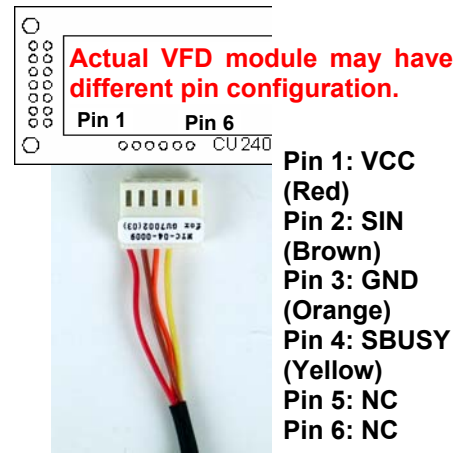

Fig. 2-4
2. Connect the 6-pin connector to the header (optional) of the VFD module (Fig. 2-4). Fig. 2-4 shows the pin configuration of the CU24043-Y1A. Refer to your specific module specification “Pin Configuration” before connecting.